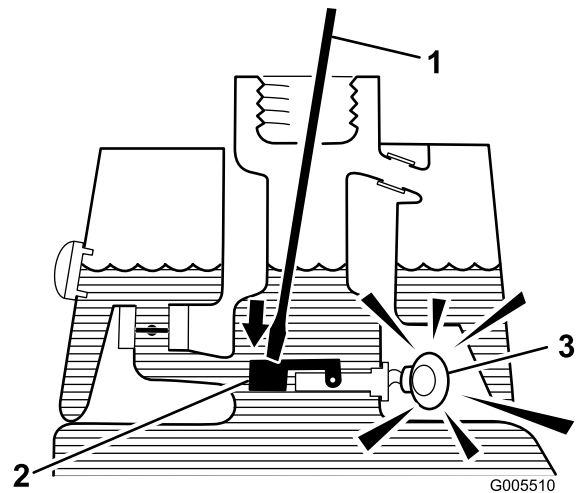

Figure 31
3. Insert a clean rod or screwdriver into the tank neck and gently push down on the switch float (Figure 31). The alarm should sound after the one-second delay.